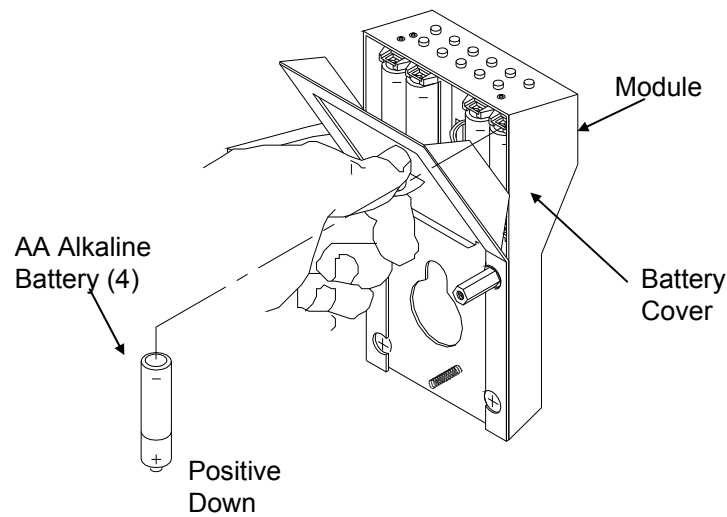

Figure 5 Battery Replacement
- Step 6 Using the tab on the Battery Cover, carefully pull the Battery Cover away from the Housing to expose the Batteries (Figure 5).
- Step 7 Remove and replace each of the old Batteries, **one at a time**, with the plus (+) end *down* (Figure 5)